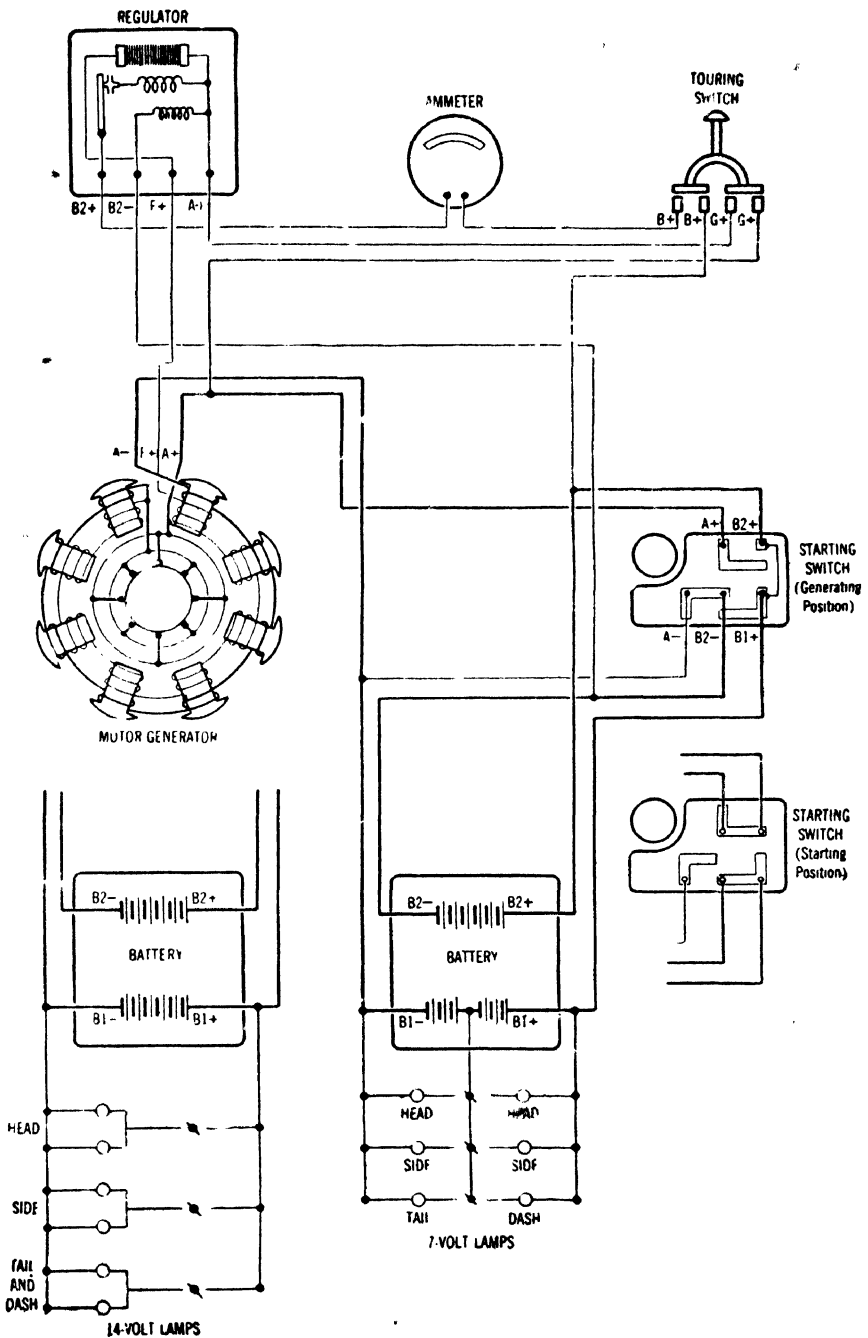

Fig. 333. Wiring Diagram for 24-12-Volt External Regulator Type, U.S.L. System
**Wiring Diagrams.** Figs. 333, 334, and 335 show the standard wiring diagrams of the three types mentioned, being, respectively, the 24—12-volt externally regulated type, the 12—6-volt external regulator and internal-armature type, and the 24—12-volt inherently regulated type. In the diagram proper of each of the 24—12-volt types is indicated the layout for using 7-volt lamps, while the extra diagram at the side shows the method of connecting for 14-volt lamps. The “touring switch” shown on the first two diagrams is a hand-operated switch in the charging circuit and is designed to prevent overcharging of the battery when on long day runs. The inherently regulated type requires very little field current, and on most of these the touring switch is of the miniature push-button type, like a lighting switch.